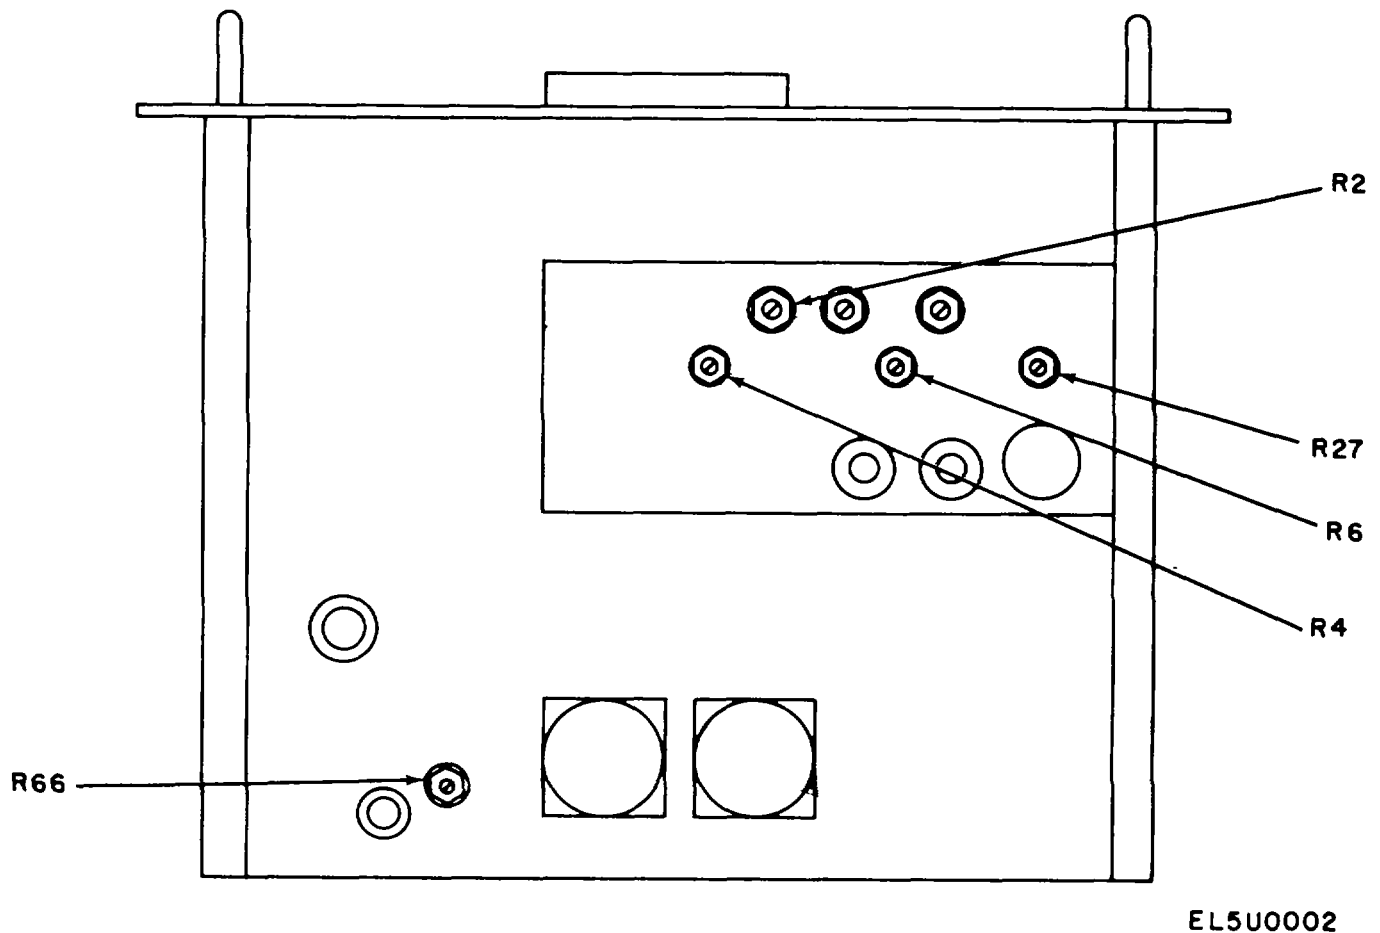

Figure 2. Audio test set component location - top
(1) Adjust FREQUENCY control potentiometer R4 (fig 2) for 1,000 Hz as indicated on frequency counter (R)
- (2) Set ON-OFF switch to OFF
- (3) Connect ohmmeter (A6) test leads across FREQUENCY potentiometer R4 (top half) (fig 2) Record ohmmeter resistance indication.
- (4) Connect ohmmeter test leads across FREQUENCY potentiometer R4 (bottom half) (fig 2)
- (5) adjust BRIDGE BALANCE potentiometer R2 (fig 2) for ohmmeter indication recorded in (3) above (R)
- (1) Repeat a(2) above
- (2) adjust OUTPUT BALANCE control R27 (fig 2) for minimum distortion as indicated by distortion analyzer
- (3) Repeat a(3) above
- (4) Adjust DISTORTION control R6 (fig. 2) for minimum distortion as indicated by distortion analyzer (R)
b. Adjustments Adjust potentiometer R66 (fig 2) for indication specified in *a(7)* above